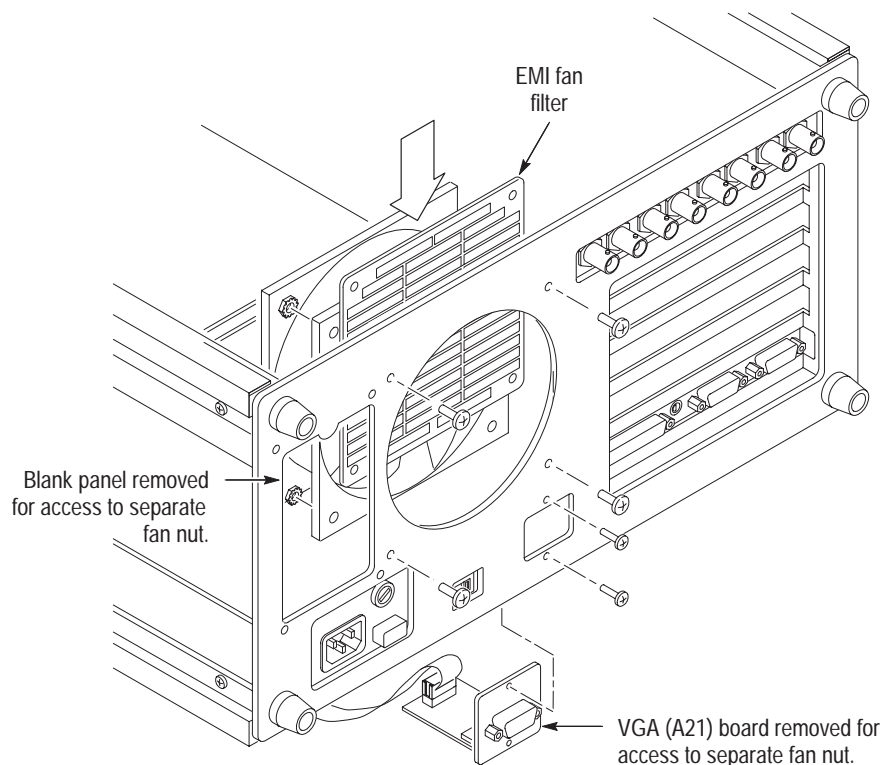

Figure 13: EMI Fan Filter location (VM700T – SN B029999 & below)
1. Remove the screws from the VGA Connector circuit (A21) board to allow access to the lower right fan housing nut as shown in Figure 13.
3. Remove the left blank panel and discard. This allows access to the lower left fan assembly nut as shown in Figure 13. Later, you will install the SDI (A23) Interface Panel in this position.